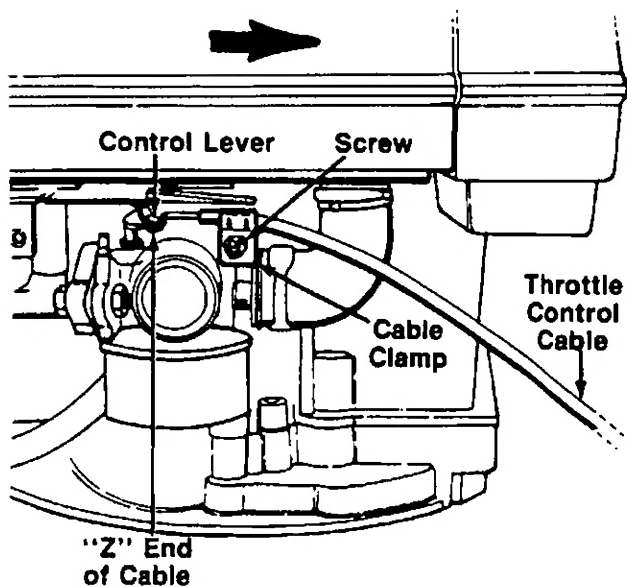

FIGURE 6B.—Models 465R, 468R, 475R and 478R
2. The throttle control cable is attached to the upper handle. Route the throttle control cable under the lower handle and inside the handle mounting bracket. Hook the "Z" end of the throttle control cable into the control lever on the engine as shown in figure 6B.
3. Loosen (do not remove) the screw on the cable clamp shown in figure 6B. Slip the control casing under the clamp (cable must move freely beneath the clamp).